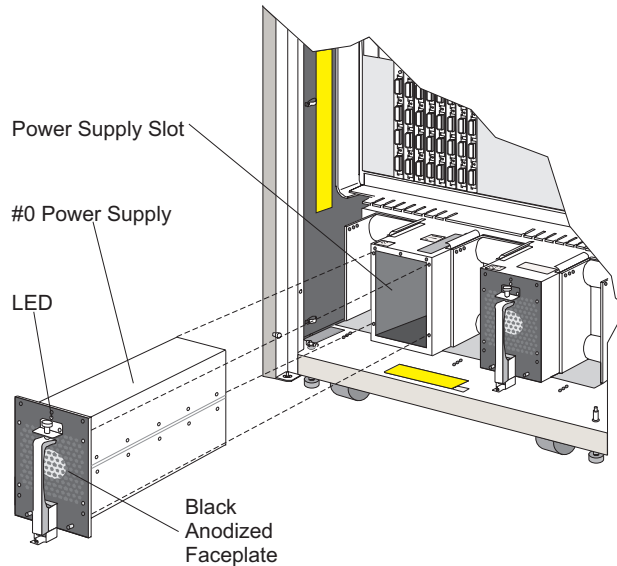

Figure 3-27. Power Supply
Use the following procedure to remove a power supply. Refer to Figure 3-27.
Use the following procedure to replace a power supply. Refer to Figure 3-27.
2. Orient the power supply as shown in Figure 3-27. Place the handle in the horizontal position. Firmly slide the power supply forward into the slot until it stops, then cam the lever to seat it so that its faceplate is flush with the slot cutout. When the faceplate is flush with the cutout and the plunger is snapped back into place, the power supply should be connected inside the slot.